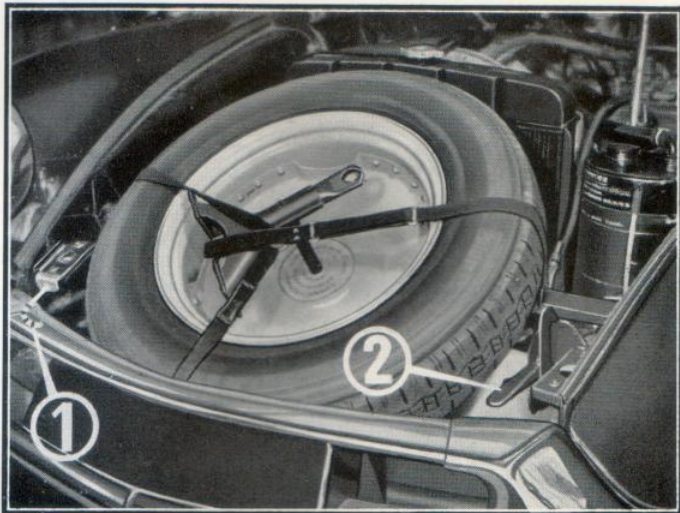
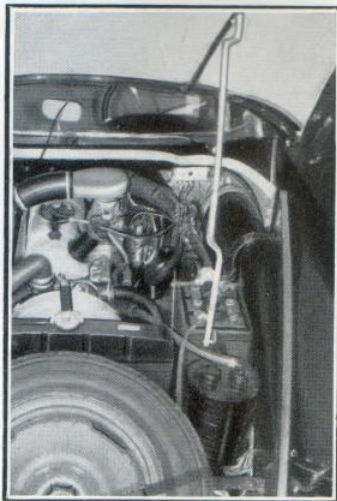

Figure 2 — Hood locks
Figure 3
Release the first safety catch by passing the left hand through the opening in the bumper by the side of the license plate and pull the handle **1** (fig. 2); the hood will lift slightly.
Release the second safety catch by passing the right hand between the hood and the bumper on the other side of the license plate and push down the lever **2** (fig. 2). To hold the hood open engage the end of the stay (fig. 3) in the bracket situated in the front of the battery.
- Take out the tool kit and the spare wheel under the hood (fig. 2, page 6).